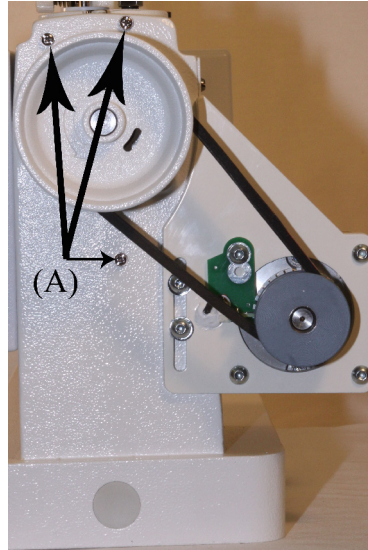
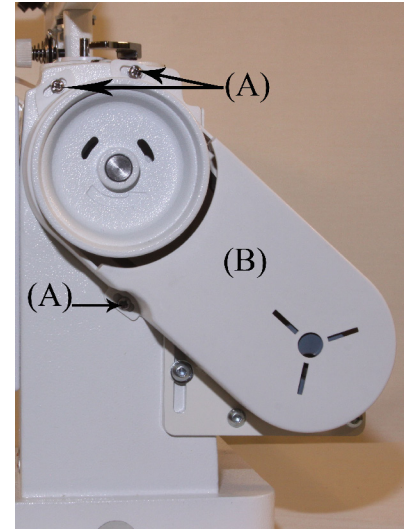

Figure 7
Figure 8
Step 1: Remove the three (3) screws with washers (A) *See figure 7*
Step 2: Place the Belt Guard (B) over the hand wheel and cover the motor pulley
Step 3: Replace the three (3) screws with washers to hold the belt guard in position. Tighten the screw. *See figure 8*